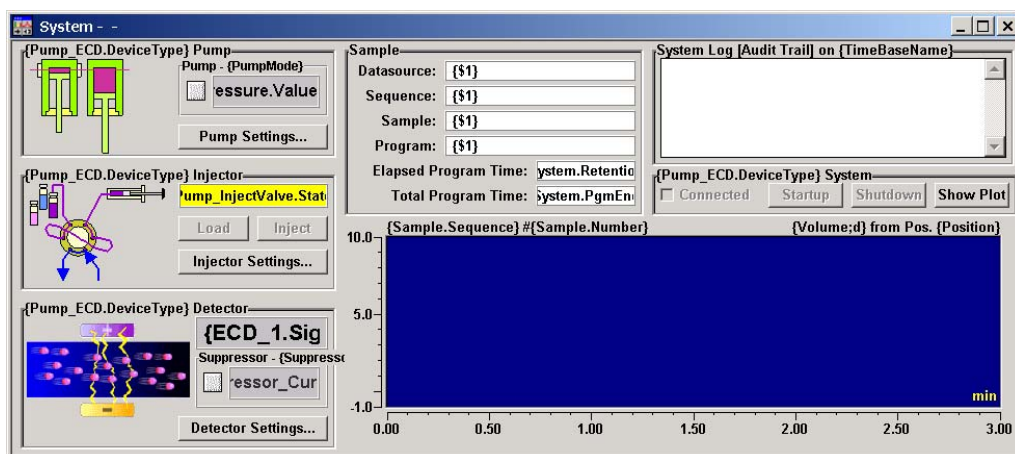

Figure 3-5. ICS-1000 System Control Panel (Unconnected)
5. The Control panel opens, unconnected (see Figure 3-5). To connect to the timebase, open the **Control** menu and click the name of the ICS-1000 timebase in the list at the bottom of the menu.